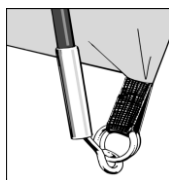

Figure 1.
1. Locate one end of each pole onto the corresponding metal pin. The metal pin inserts into the hollow metal ferrule on the end of each pole. (See Figure 1). Push the pole into a curve from the opposite side, one at a time, and locate all pole ends onto the metal pins.